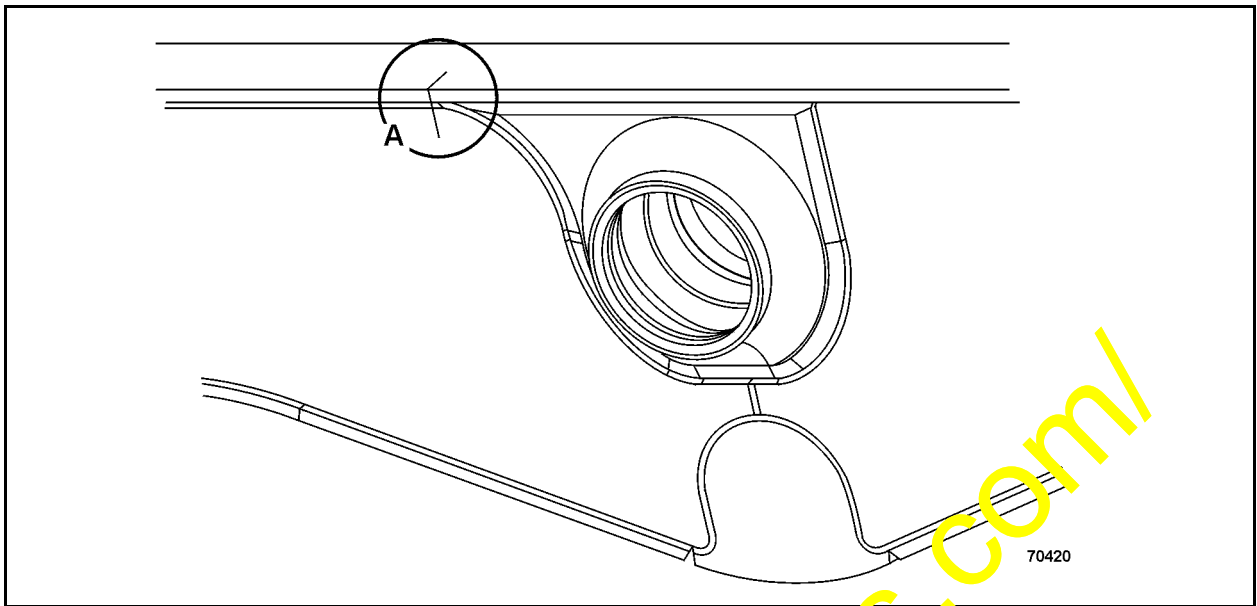
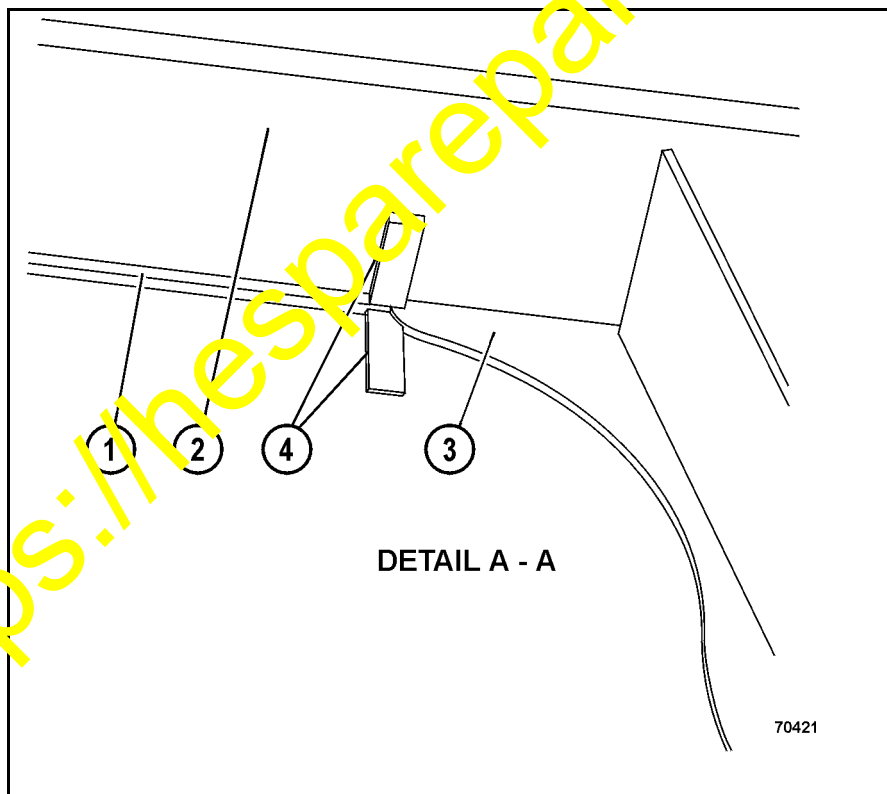

FIGURE 1. DRIVE TUBE CASTING
FIGURE 2. INSIDE VIEW OF THE FRAME RAIL
Due to the location of the cracks (A, Figure 1), field repairs in this area can be difficult to complete. A typical crack is found on the inside of the frame where corner joint backer bar (1, Figure 2) connects with top bar (2) and casting (3).